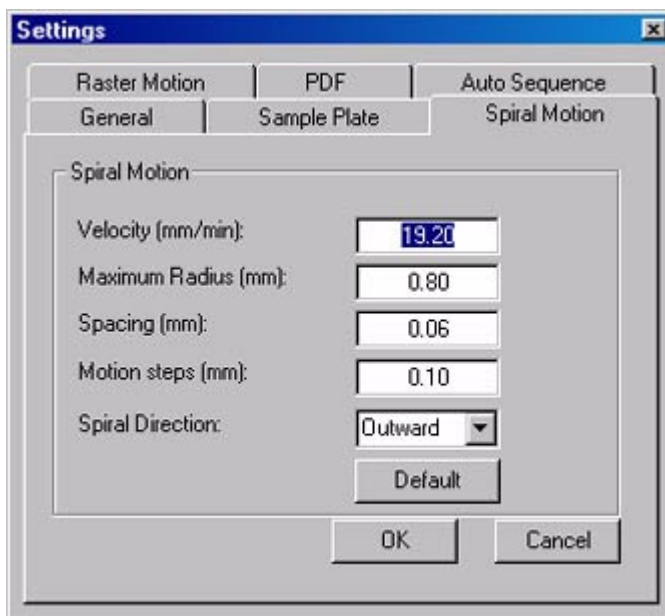

Figure 67 Spiral motion setting for Target Plate
- 1 In the Target software, select the Settings pull-down menu, and click on the Spiral Motion tab. Copy the settings from Figure 67 and enter them into the appropriate places in your software.